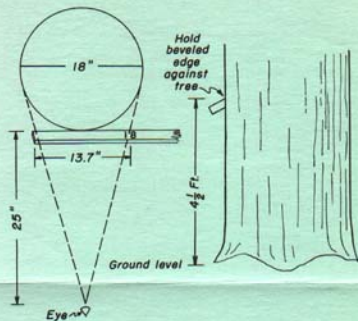

Fig. 2. Measuring tree diameter with Biltmore stick.
Measure tree diameters with the Biltmore stick in the following way (see Fig. 2):
- (1) Hold the stick in a horizontal position so that there is a distance of 25 inches from the eye to the stick. Hold the beveled edge of the stick against the trunk of the tree at breast height.
- (2) Look straight at the tree without moving your head from side to side. Adjust the stick so that the left or zero end is in line of sight with the left side of the tree (see Fig. 2).
- (3) Without moving your head, shift the line of sight to the right hand side of the trunk.
- (4) Read the diameter on the stick nearest the point at which the line of sight crosses it.